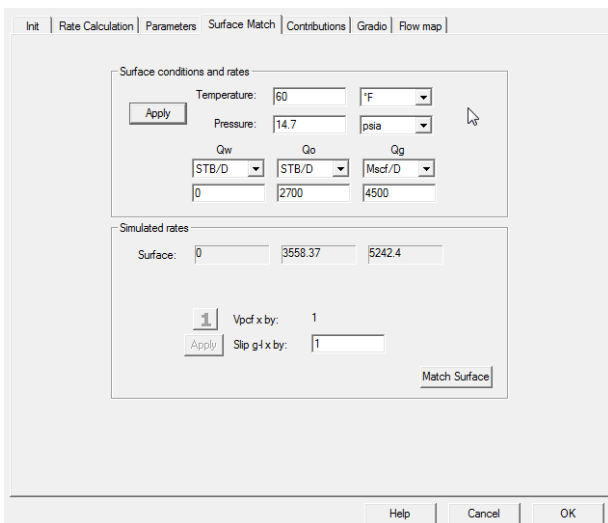

Fig. B01.40 • Surface production entered
- Select the 'Surface Match' tab Fig. B01.40.